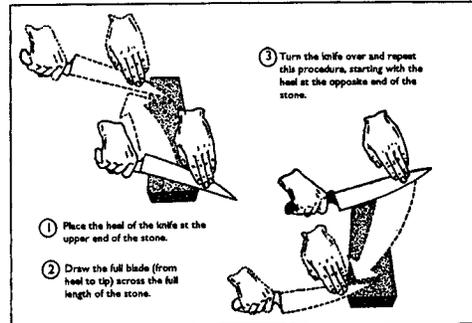

Figure 3-1. Sharpening knife
2. Use and handle knives safely. See Figures 3-1 and 3-2.